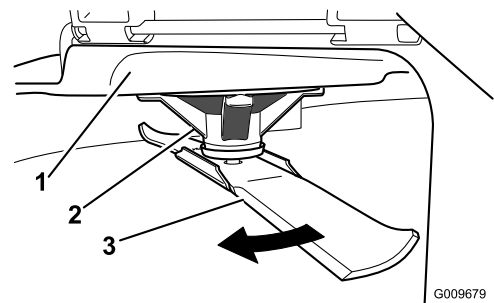

Figure 62
2. While wearing thickly-padded gloves, or other adequate hand protection, slowly rotate the blade to be measure into a position that allows effective measurement of the distance between the cutting edge and the level surface the machine is on (Figure 62).